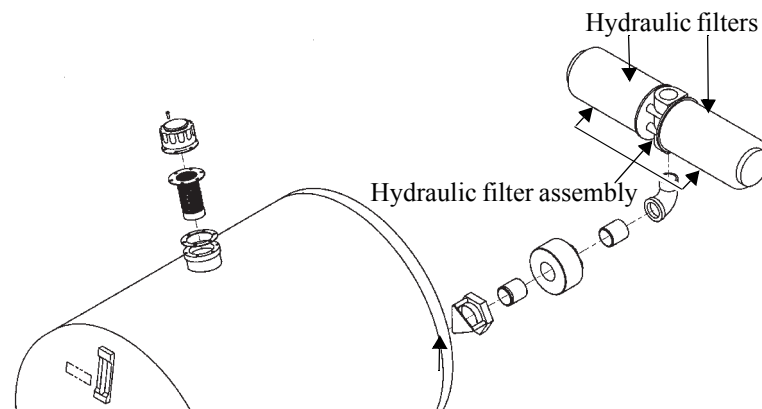

Figure 34 - Location of hydraulic filters
1. Locate the hydraulic filters on the entry line running into the hydraulic tank on the side of the carrier (see *Figure 34*, below).